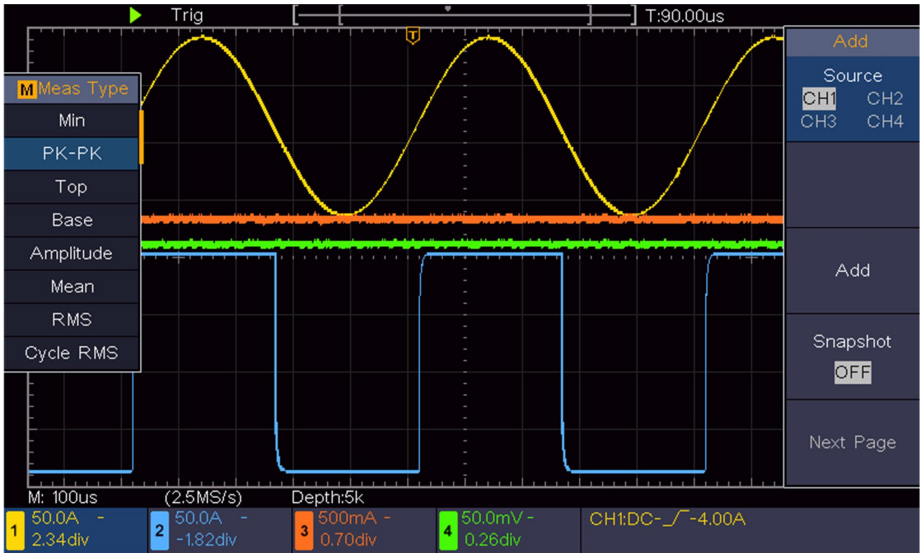

Figure 6-2 Waveform of Gain Measurement
- (1) Push the **Autoset** button and the oscilloscope will automatically adjust the waveforms of the two channels into the proper display state.
- (2) Push the **Measure** button to show the right menu.
- (3) Select **CH1** in the right menu.
- (4) In the left Type menu, turn the **M** knob to select **PK-PK**.
- (5) In the right menu, select **Add**. The peak-to-peak type of CH1 is added.
- (6) Select **CH2** in the right menu.
- (7) In the right menu, select **Add**. The peak-to-peak type of CH2 is added.
- (8) Read the peak-to-peak voltages of Channel 1 and Channel 2 from the bottom left of the screen (see *Figure 6-2*).
- (9) Calculate the amplifier gain with the following formulas.